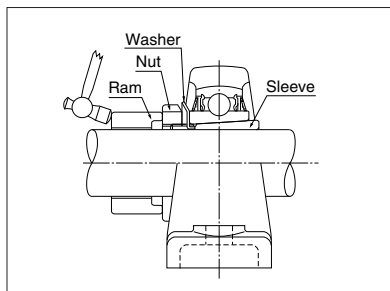

Fig.8.18
- 2) **Consider the adapter type:** straighten the bent tab of the lock washer, and turn back the nut by two or three turns. Then, place a metal block on the nut side face, and tap it with a hammer around the circumference to remove the sleeve (**Fig.8.18**). NEVER tap the cover if only a portion of nut threading remains engaged. Otherwise, the thread of the nut can be damaged.